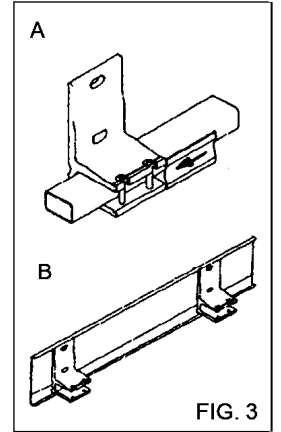

FIG. 3
- Secure it with the bolts and slide the bracketplate on (fig. 3)